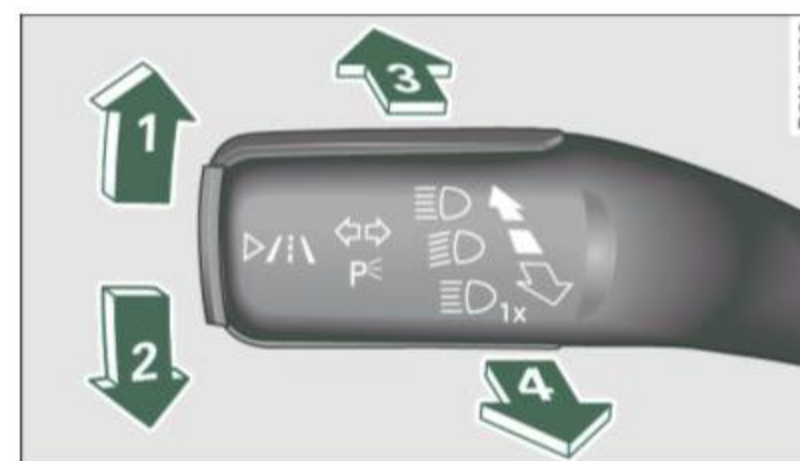

Fig. 55 Turn signal and high beam lever
- Push the lever up as far as it can go to turn on the right turn signal or down to turn on the left turn signal ⇒ fig. 55.